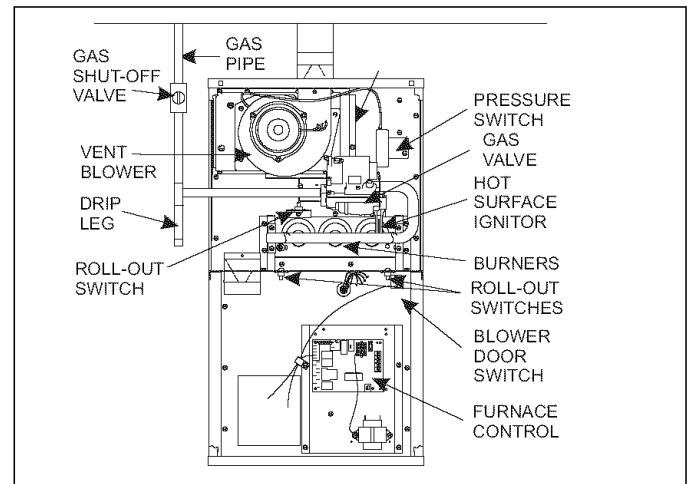

FIGURE 9: Upflow Configuration
**IMPORTANT:** An accessible manual shut-off valve must be installed upstream of the furnace gas controls and within 6 feet (1.8 m) of the furnace. Refer to Figures 9 and 10.
1. Shut off gas supply at valve upstream from furnace or at meter as required. Refer to Figures 9 and 10.